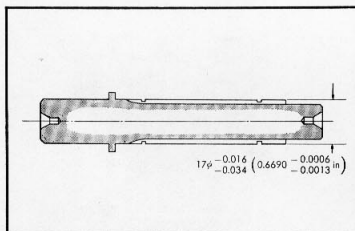

Figure 3-81. Counter shaft dimension
- (5) Counter shaft outside dia (Fig. 3-81)